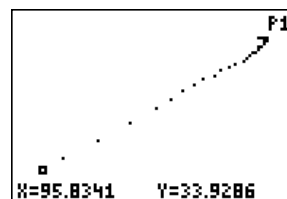

Figure 15
- Explore the plots. If the graph does not give a satisfactory plot (no straight-line graph for Fahrenheit vs. Celsius, see Figure 15), press β from the graphing screen, and then Ψ to get back to the MAIN SCREEN.